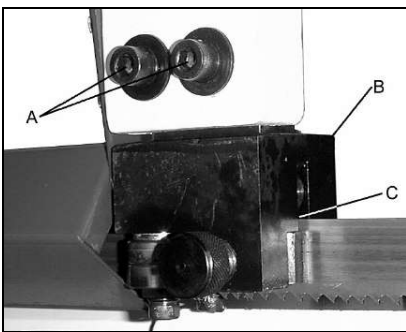

Fig 11
Loosen bolts (A, Fig 11) and adjust assembly (B) so that back roller bearing is approximately 0,1mm from the back of the blade (C). Tighten bolt.